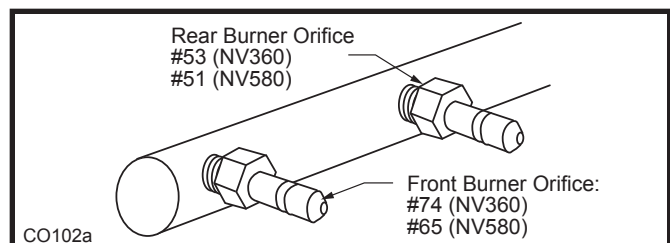

Fig. 25 Remove burner orifice, replace with new orifice.
2. Remove burner orifice from manifold assembly using 3/8" wrench. (Fig. 25)